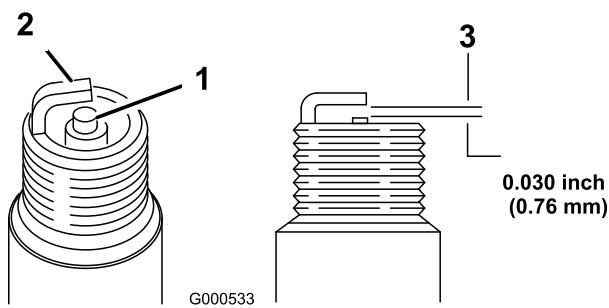

Figure 26
1. Screw (4)	3. Spark-plug wire
11. Set the gap on the plug to 0.030 inch (0.76 mm) (Figure 26).